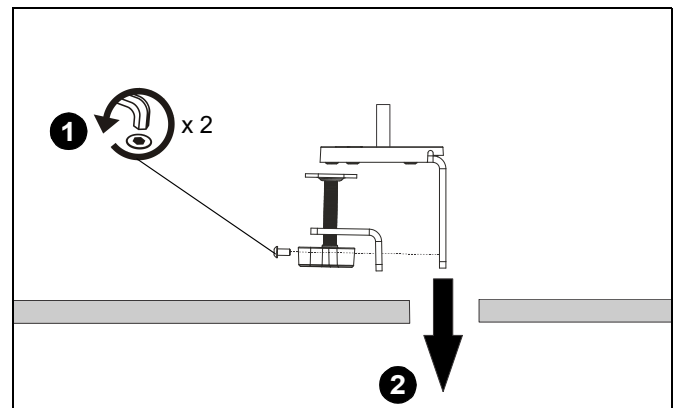

Figure 4
1. Remove lower piece of clamp from assembly by removing two button head cap screws holding piece to assembly. (See Figure 4)
2. Install remaining part of clamp through grommet hole. (See Figure 4)